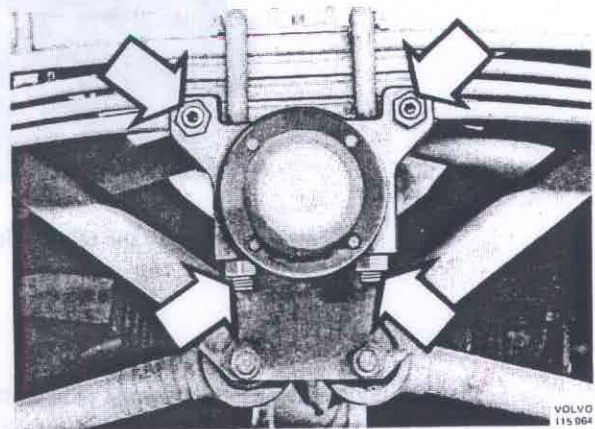

Fig. 76–5. Removing the spring
3. Screw off the cover (13, Fig. 76–3).
4. Knock up the lock washer (11) and screw off the outer nut (12) with a wrench, see Fig. 76–6.
5. Screw off the inner nut with a wrench and pull off the cradle. Remove the outer axial washer (9) and clean the cradle and bogie axle.